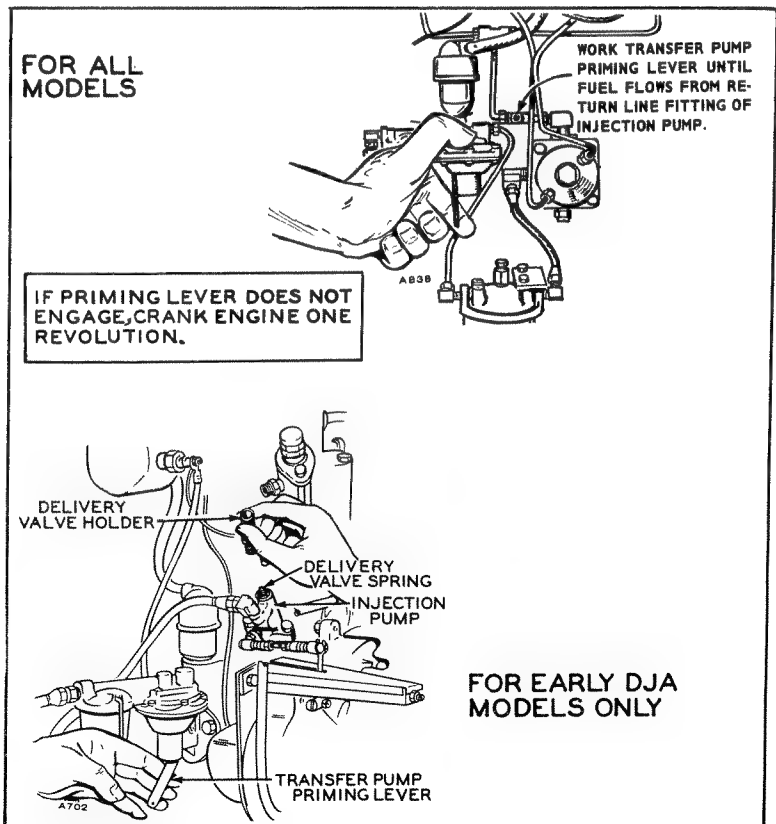

Fig. 15 Fuel System Priming and Air Bleeding
**BLEED AIR FROM FUEL SYSTEM.** - Disconnect the fuel return line. See Figure 15. Operate the hand priming lever on diaphragm type fuel transfer pump until there are no air bubbles in fuel flowing from the fuel return line fitting. Then connect the fuel return line. NOTE: If the camshafts pump lobe is up, crank engine one revolution to permit hand priming. When finished, return priming lever inward (disengaged position) to permit normal pump operation.
On early 1 cylinder engines only, bleed also at the injection pump outlet, figure 15. Remove pump to nozzle fuel line and the delivery valve holder. Crank engine until air is removed, then reassemble.